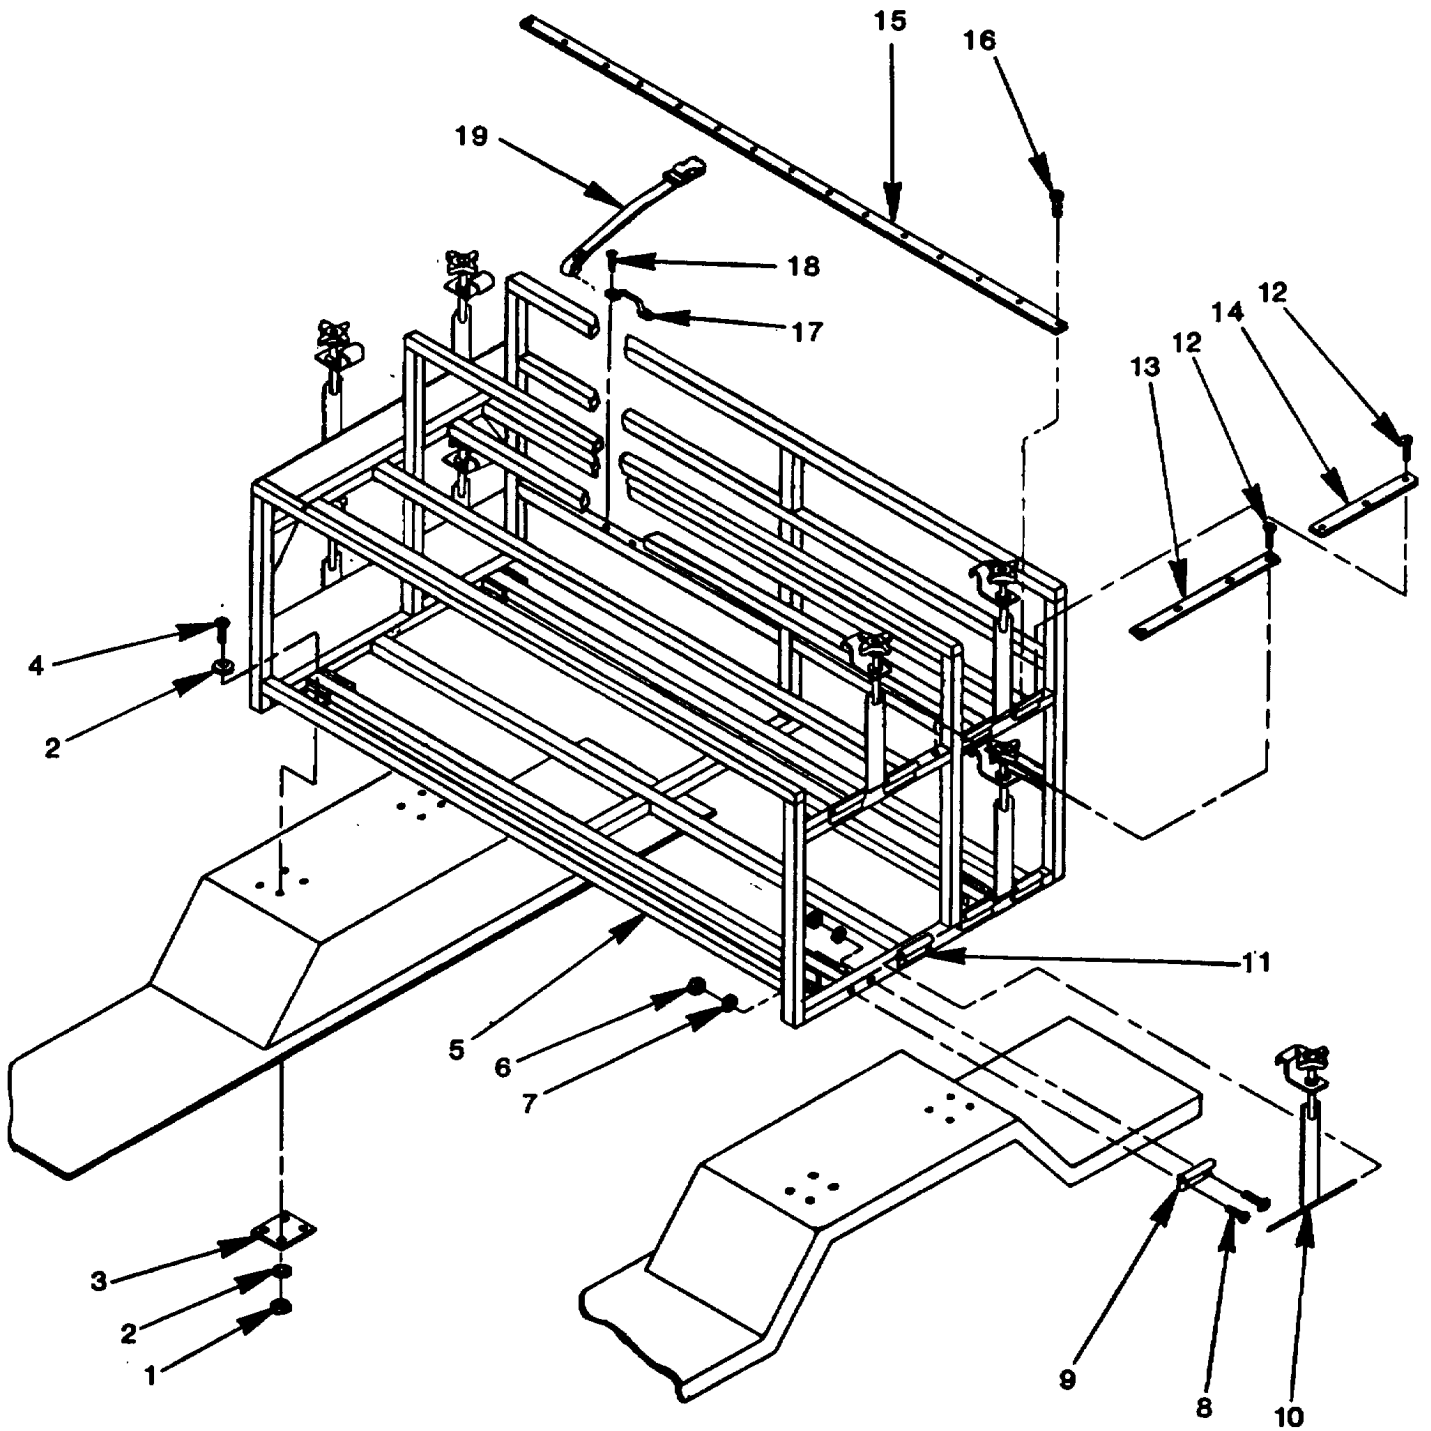

Figure 4-13. Stowage Rack Assembly Repair and Replacement on AN/MJQ-32.
a. Repair. (See figure 4-13). Repair of the rack assembly is limited to replacement of clamps, runners, and strap fasteners. If required, repaint in accordance with MIL-T-704 and MIL-C-46168. Replacement is as follows:
(1) Clamps.
- (a) Remove two nuts (6, figure 4-13), flat washers (7), and screws (8) from either one of two each leaf-butt hinges (9). Remove leaf-butt hinge.
- (b) Slide clamp (10) out of remaining leaf-butt hinge.
- (c) Place new clamp (10) into remaining leaf-butt hinge and slide removed leaf-butt hinge (9) on clamp.
- (d) Position leaf-butt hinge on rack and secure with two screws (8), flat washers (7), and nuts (6).
- (2) Runners.
- (a) Remove eight screws (12) from long clamp runner (13); or remove six screws (12) from short clamp runner (14).
- (b) Remove 15 screws (16) from runner (15) and take off runner.
- (c) Position new runner (15) on rack assembly (5) and secure with 15 screws (16).
- (d) Install long clamp runners (13) and secure with eight screws (12) or install short clamp runners (14) and secure with six screws (12).
- (3) Strap Fastener.
- (a) Drill out solid rivets (18) securing strap fastener (17) to rack assembly (5).
- (b) Remove strap webbing (19) from strap fastener.
- (c) Place new strap fastener (17) through strap webbing (19) loop and position strap fastener on rack assembly and secure with solid rivets (18).
- b. Removal. Power Plant AN/MJQ-32 contains a stowage rack for transporting the antenna accessories. (See figure 4-13.)
- (1) Remove 16 locknuts (1, figure 4-13), 32 washers (2), 4 plates (3), and 16 screws (4).
- (2) Remove rack (5) from trailer.